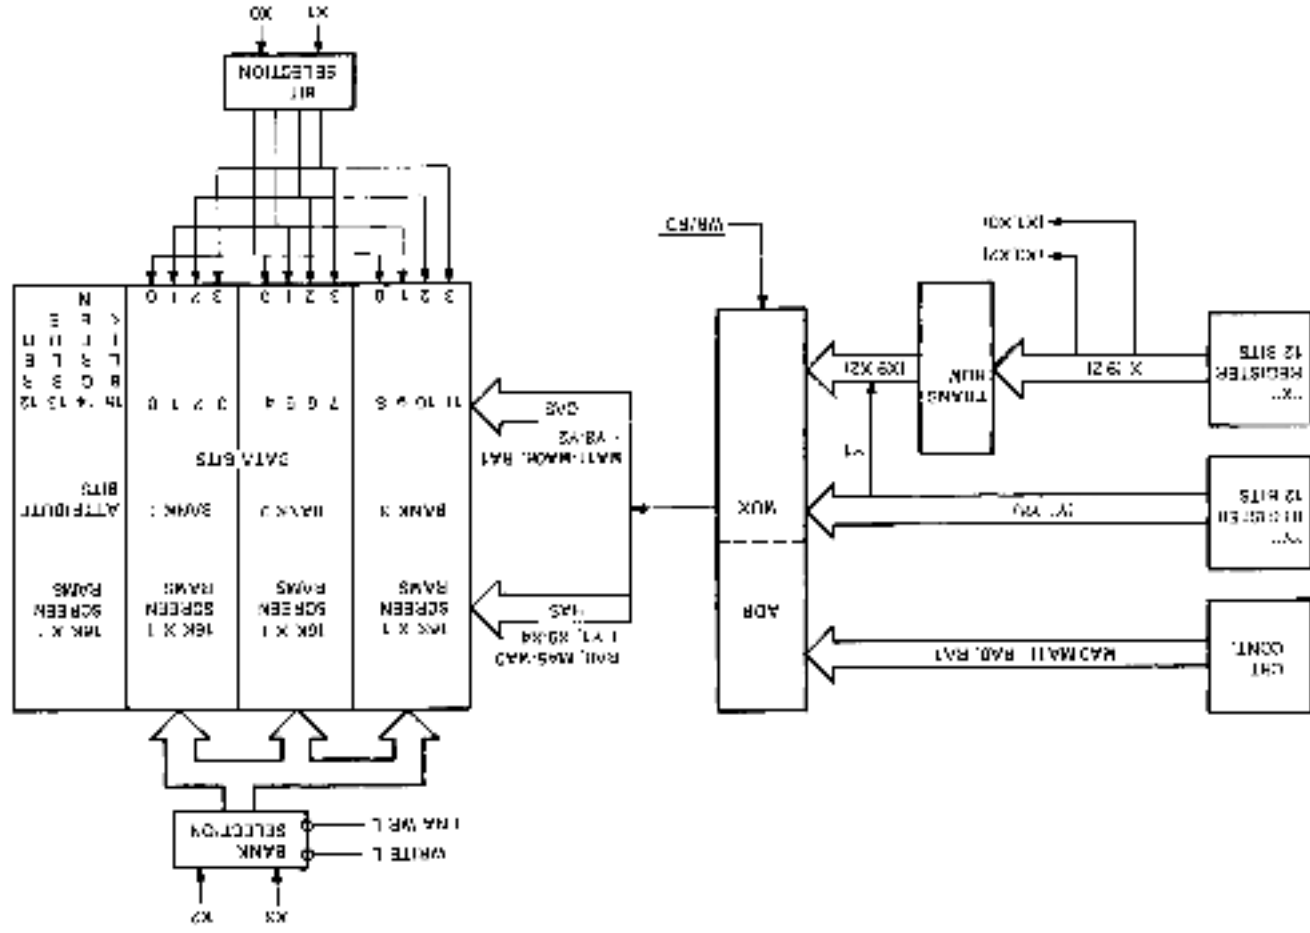

Figure 5-16 Addressing the Screen RAM
5.2.2.1 Addressing the Screen RAM -- The screen RAM is addressed through a two to one multiplexer (Figure 5-16). When the modify screen RAM function is taking place, the address comes from the X and Y register. The WRT/RD signal when high allows the contents of the X and Y register to pass through the multiplexer to address the screen RAM.
The address bits X9--X2 go through a translator, which makes sure that the output bits X3 and X2 are never equal to a binary three. Bank three in the screen RAM does not exist (Figure 5-16).